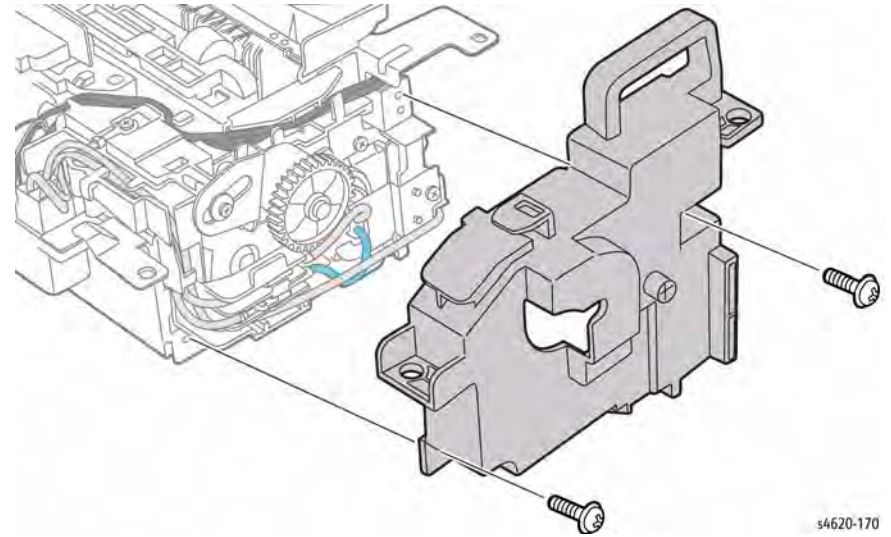

Figure 7 Remove the Fuser left cover
9. Remove 2 screws (Silver, metal) that secure the Fuser left cover, Figure 7.